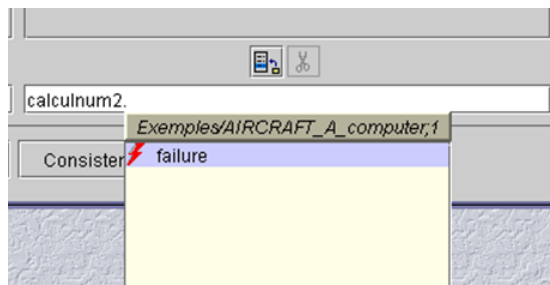

Figure 107: Selecting a basic event
- ◆ Type the character **<.>** (point) after the model name **<Model_Name>**. to display the list of events if the model is a component (Figure 107), or the list of sub-models if the model is an equipment.